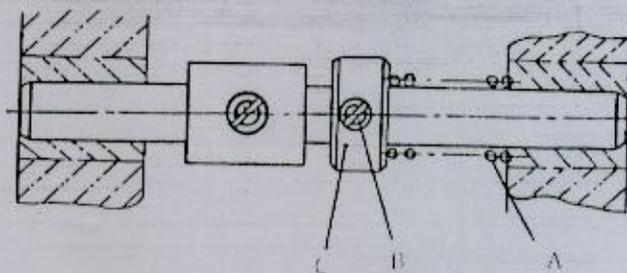

Fig. 13
The lateral pressure between the knife and the cutting steel is activated by the spring (A, Fig. 13). And it is determined by actual requirement in thread chain cutting. For adjustment, loosen the collar (C) of spring and screw (B), increase or decrease the pressure as required, then retighten screw (B).